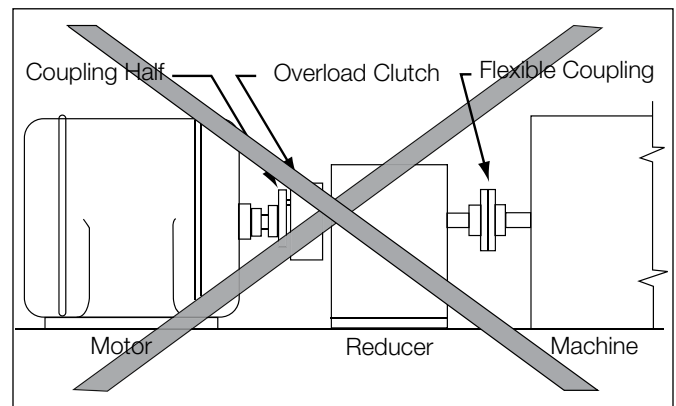
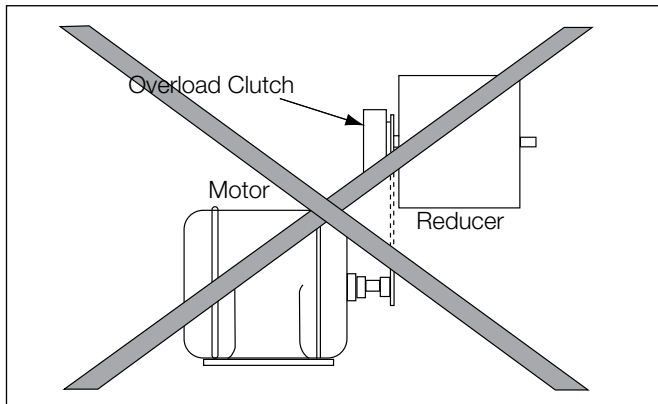

Figure 7
Figure 9
b. Locating the clutch as shown in Figure 7 is not preferred. Here, the clutch is mounted on the high-speed side of the reducer. Generally, mounting in this manner requires the clutch to be hypersensitive to perform satisfactorily.
b. The mounting location in Figure 9 is not preferred for the same reasons as those for Figure 7. Always consult the factory when a mounting of this type seems necessary.